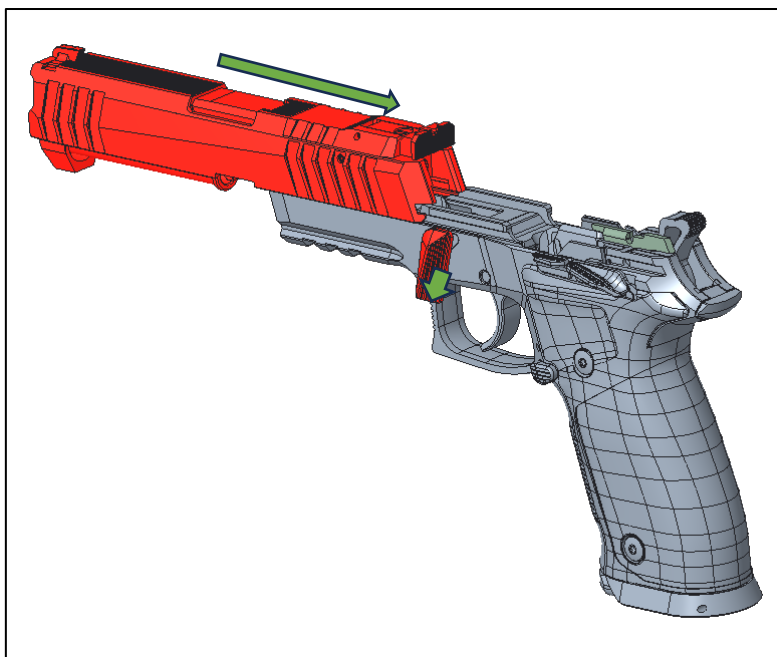

Figure 36: Mounting the slide onto the frame guides
5. Mount the slide onto the frame, ensuring that the recoil spring is centered underneath the barrel and aligning the slide grooves with the frame guides (Figure 36).